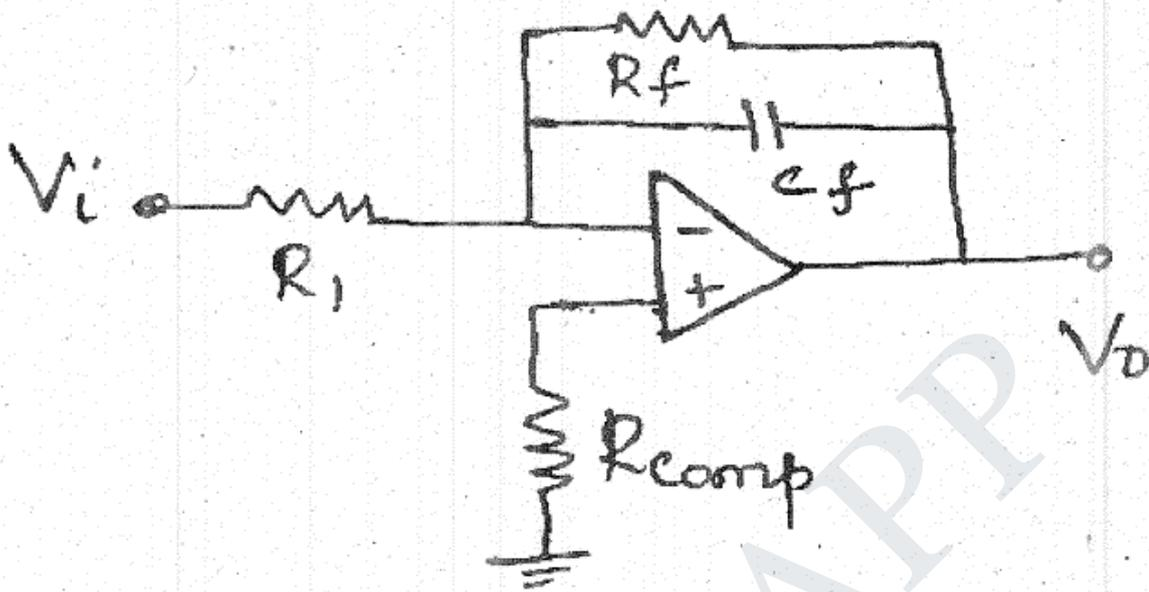

Figure 2.
1. Consider the lossy integrator as shown in Figure 2. For the component values $R_1 = 10\text{ k}\Omega$, $R_F = 100\text{ k}\Omega$ and $C_F = 1\text{ nF}$, Determine the lower frequency limit of integration and study the response for inputs. (Eg. 4.4 Roy Choudhury)